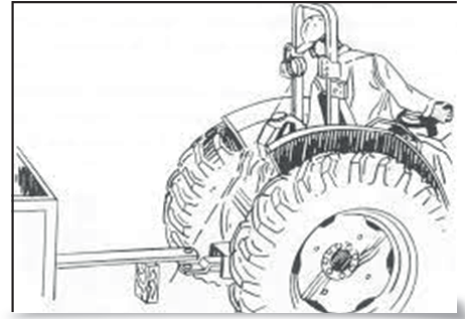

Figure 5- Spotting the hitch to the drawbar.
- Position the tractor to align the hole in the drawbar with the hole in the mixer-feeder hitch. This is called spotting. You may need to practice this skill. (Figure 5)